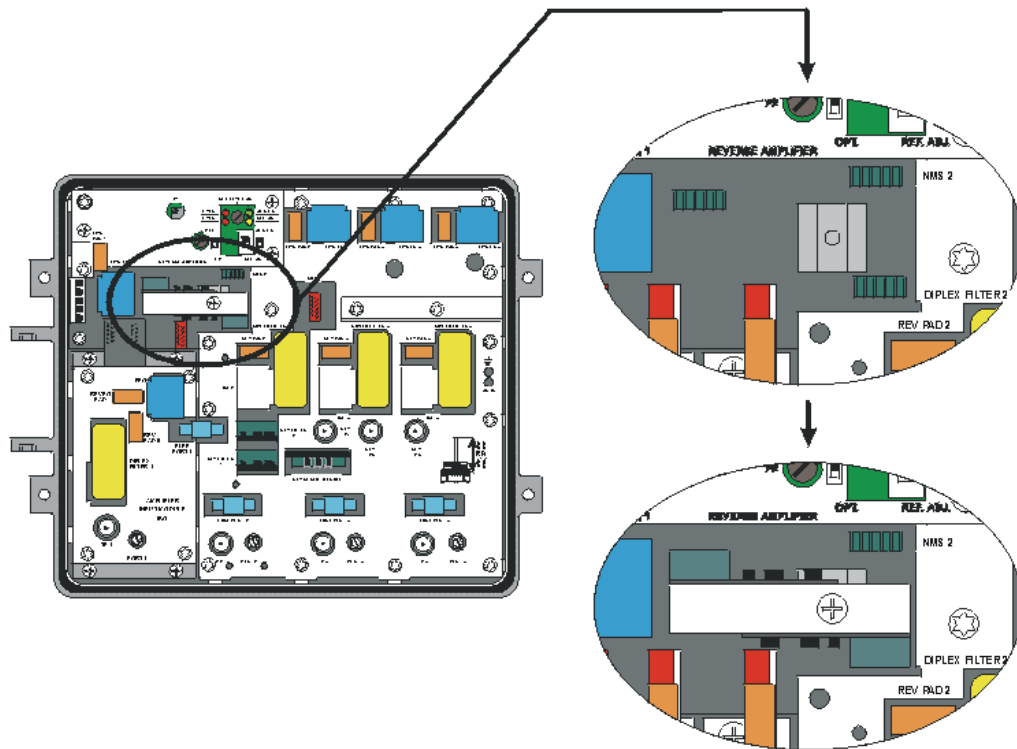

Fig. 9. RAG 29-1 module mounting.
2. Install reverse path module **RAG 29-1** or jumper **RJP** for the passive reverse path. Reverse amplifier should be placed in *REVERSE AMPLIFIER* socket and tightened using M3 screw, which is shipped with module (see Fig. 9).